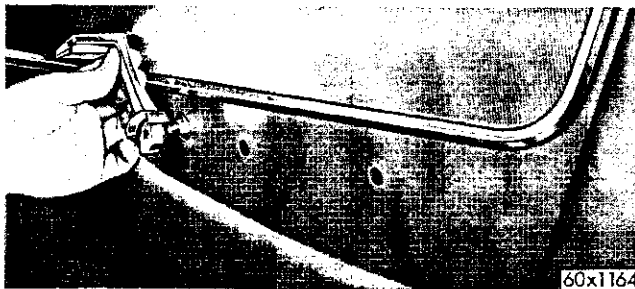

Fig. 42—Removing the Remote Control Handle
(1) Remove the garnish moulding, arm rest, and remote control handle (Figs. 42 and 43).
(1) Remove the garnish moulding arm rest and remote control handles (Fig. 42 and 43).